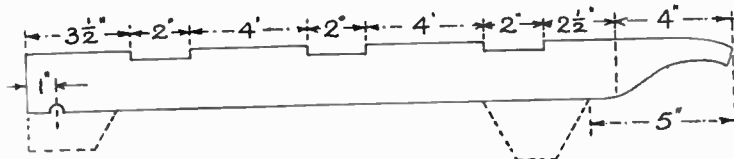

Fig. 1—Side view of handle with dimensions and shaping
In commencing to make the truck the two main handles will first be prepared. They are each 2ft. long and cut from 2in. wide stuff  $\frac{1}{2}$ in. or  $\frac{3}{4}$ in. thick. Square off the ends of the two pieces, and then, taking up one of them, proceed to mark off the positions of the recesses, as shown in Fig. 1. Cut down on the lines with a tenon saw to  $\frac{1}{2}$ in. deep and clean out the wood with a chisel. Or, perhaps, the fretsaw frame fitted with a coarse saw would do the latter job more cleanly.
the ground. At (B) in Fig. 3 the size and shape of one foot is given, and, having cut one to shape, the second one can be accurately outlined by drawing round it. The proper position of the foot is given in the dotted lines in Fig. 1. Glue the feet on and drive in nails or screws